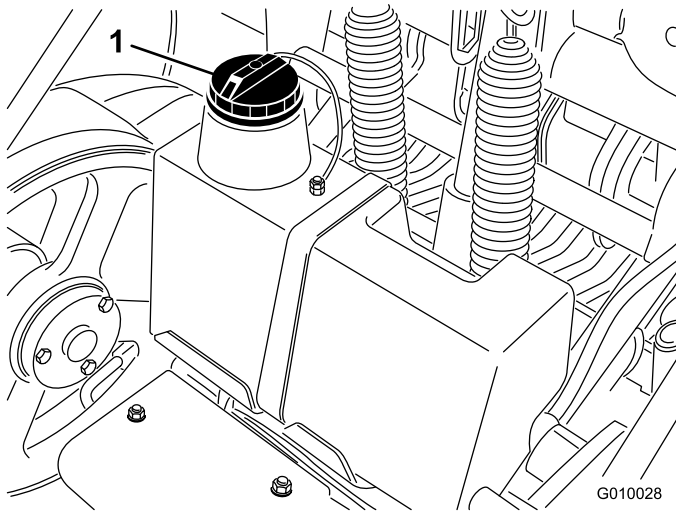

Figure 18
3. Clean area around filler neck and cap of hydraulic tank (Figure 18). Remove cap from filler neck.